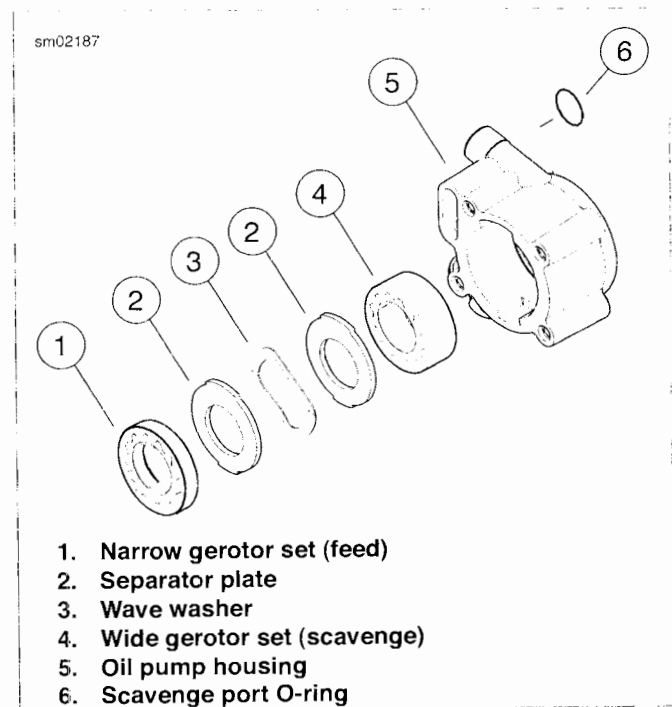

Figure 3-140. Assembling Oil Pump
8. See Figure 3-140. Assemble the oil pump. Verify that feed gerotors stand proud of the oil pump surface 0.015-0.025 in. (0.38-0.64 mm). If measurement is less than 0.015 in. (0.38 mm), remove feed gerotor set and reassemble using **new** wave washer. Repeat measurement and replace oil pump body if still not within specification.